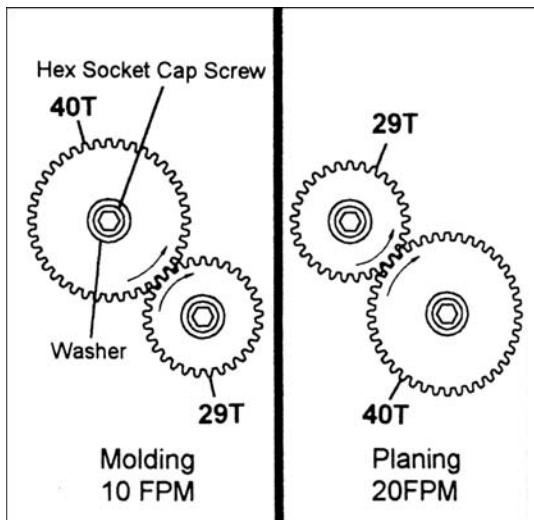

Figure 7
4. Remove gears and position according to operation. See gear chart (Figure 7).